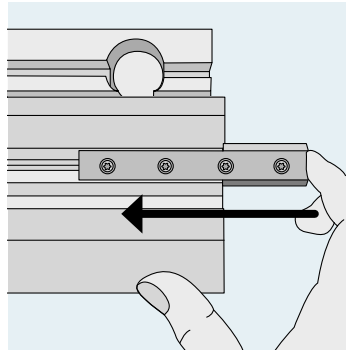

Figure 5: Underneath the threshold
- a. Insert the assembly bracket and slide the bracket with grub screws into the groove on the aluminium threshold. Two screws must be mounted on each side of the joint (figure 5).